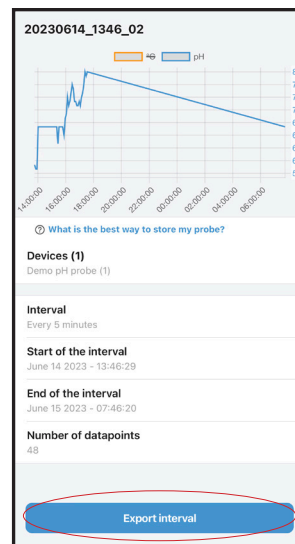
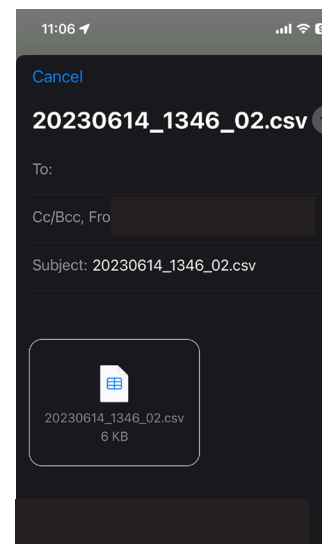

Figure 8
Figure 9
- The screen will show the probe(s) used in the interval, the interval time, start and end time of the interval and the number of data points (Figure 8)
- Select **Export Interval** to export data into a .csv file that can be saved or emailed (Figure 8/Figure 9)